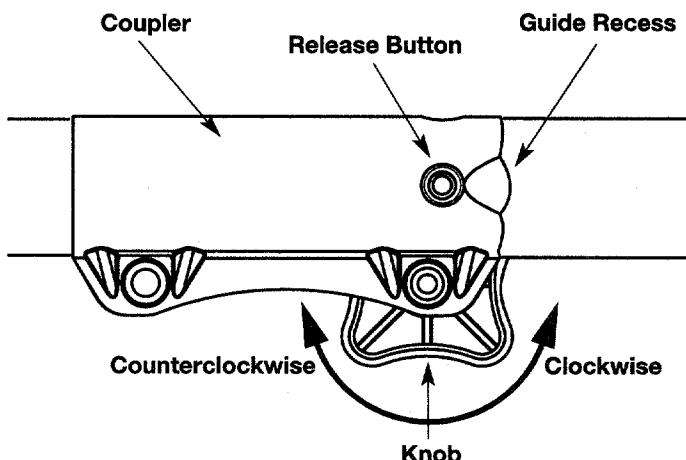

Fig. 1
1. Turn the knob counterclockwise to loosen (Fig. 1).
2. Press and hold the release button (Fig. 1).
1. Turn knob counterclockwise to loosen (Fig. 1).
**NOTE:** Aligning the release button with the guide recess will help installation (Fig. 1).